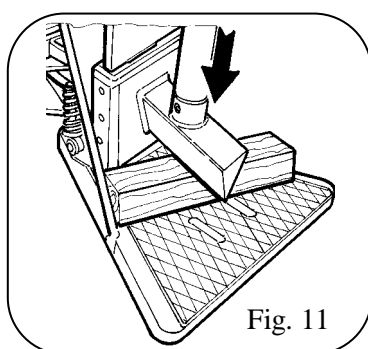

Fig. 11
- Lower the cutter to stroke end onto the log positioned transversely between the blade and the frame base without forcing it too much. (Fig. 11)